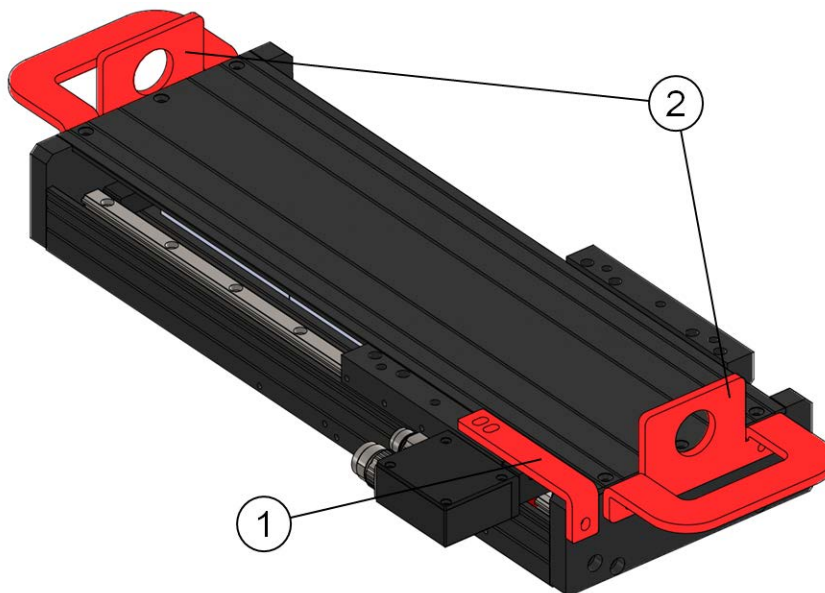

Fig. 4.1 Transportation safety device and shipping devices – here for a LMX1A linear motor system
- ▶ Lock the forcer housing in place during transport using transportation safety devices. (Fig. 4.1 ①).
- ▶ Lock shipping devices on the linear motor system. (Fig. 4.1 ②)